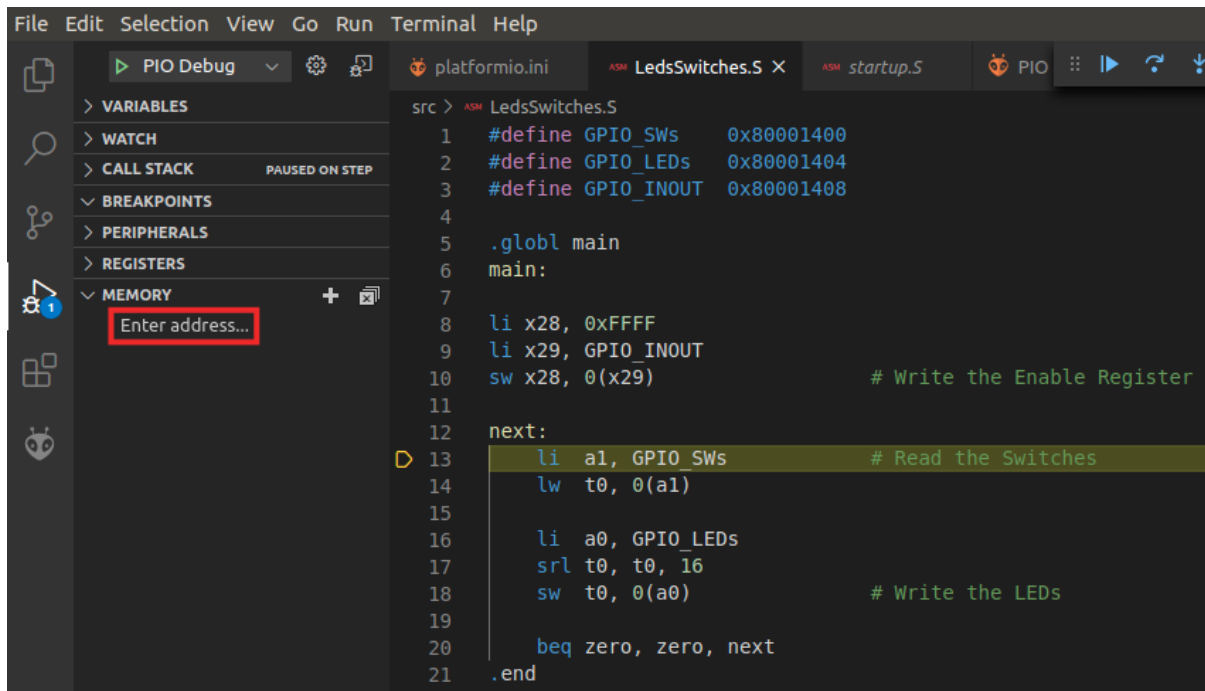

Figure 55. Memory Display
- a. Pause the execution and step until the beginning of the *next* loop. Expand the Memory Display on the left part of the window (see Figure 55) and click on *Enter address...*